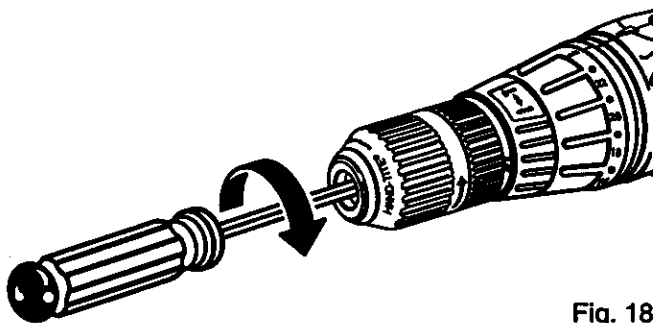

Fig. 18
- Open chuck jaws and remove allen wrench. Remove the chuck screw by turning it in a clockwise direction. See Figure 18. Note: The screw has left hand threads.